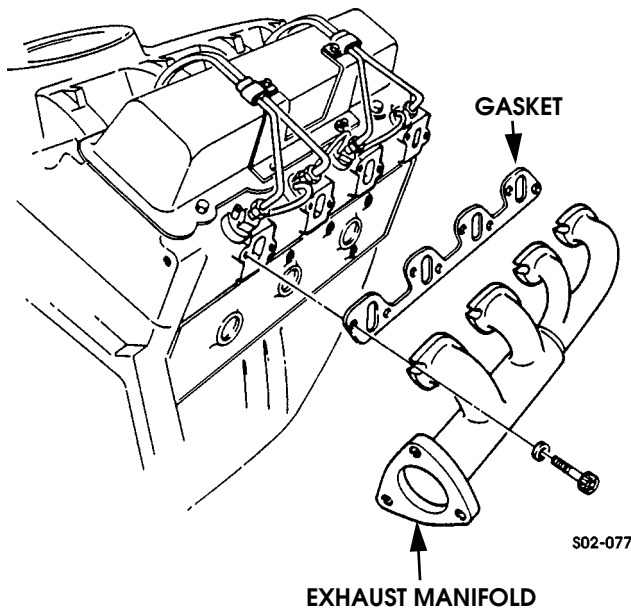

Figure 2-87: Right Side Exhaust Manifold Removal
3. Remove right manifold screws and eight socket-head screws, manifold, and gasket. Discard gasket (Figure 2-87).